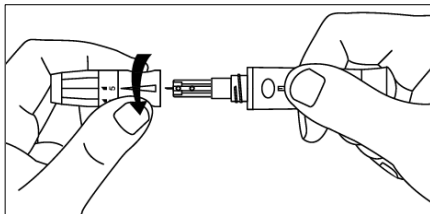

Fig 5.32
**Step 4:** Carefully screw the lancing device cover back to the lancing device. Avoid contact with the exposed needle. Make sure the cover is fully seated on the lancing device. (Ref Fig 5.32)